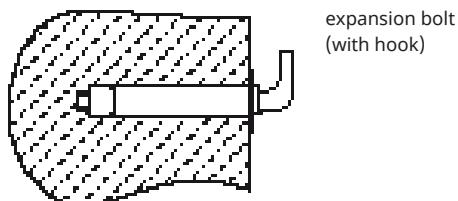

Fig. 2
- After selecting a proper location, determine the positions of the two holes used for expansion bolts with hook. Make two holes in the wall with the corresponding depth and size matching the expansion bolts attached with the heater. Insert the screws, turn the hook upwards, tighten the nuts to fix firmly, and then hang the electric water heater on it (see Fig. 2).